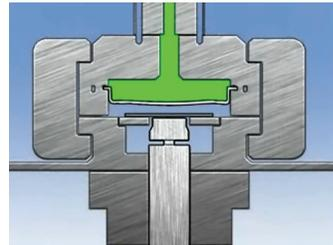

Figure 6: Fill bladder with hydraulic fluid.
- Fill bladder with hydraulic fluid to raise pressure (Figures 6 and 7).